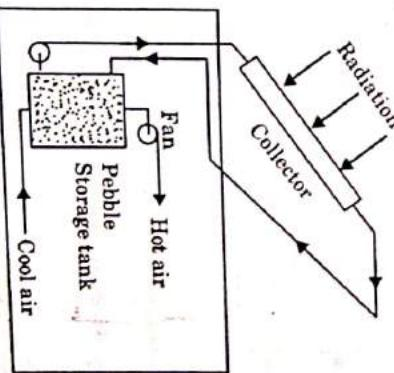

Fig. 2.33.1. Schematic diagram of active space heating by air collector.
3. When there is no sunshine or during night the cold air from room flow through this pack and after heating get distributed in the living rooms as shown in Fig. 2.33.1.